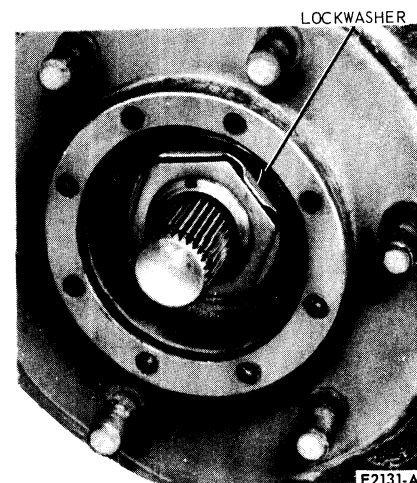

FIG. 5 Lock Nut and Washer Assembled
4. Bend the tab of the lock washer from the lock nut and remove the lock nut (Fig. 5).